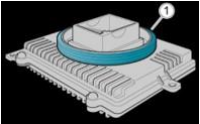

Figure 3
- Referring to Figure 3 - Installation is the reverse of the removal procedure, pay attention to the seal (1) ensuring there is NO damage